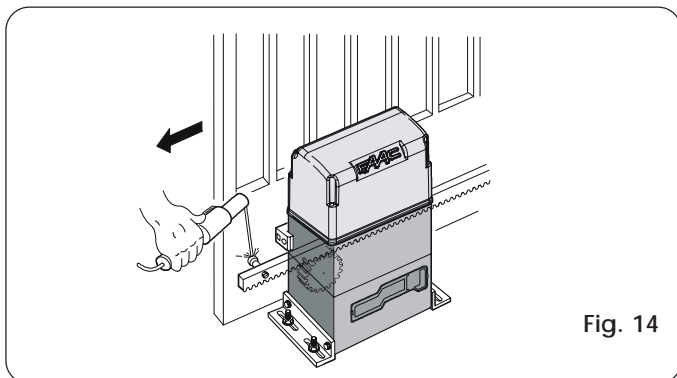

Fig. 14
- 3) Rest the first section of the rack level on the pinion gear, and weld the threaded pawl on the gate as shown in Fig.14.